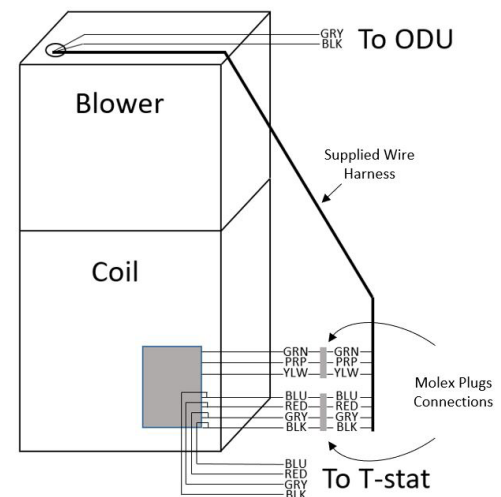

Figure 22
8. View Figure 22 for reference of Wire Harness Setup.